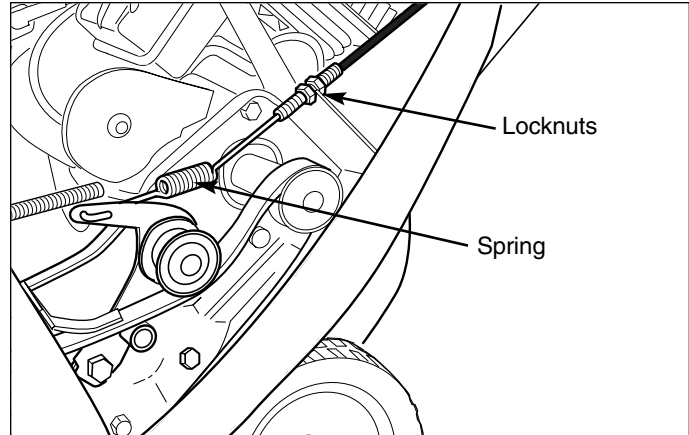

Figure 14. Auger Control Cable
2. Locate and loosen the lower locknut securing the auger control cable (shown in Figure 14).